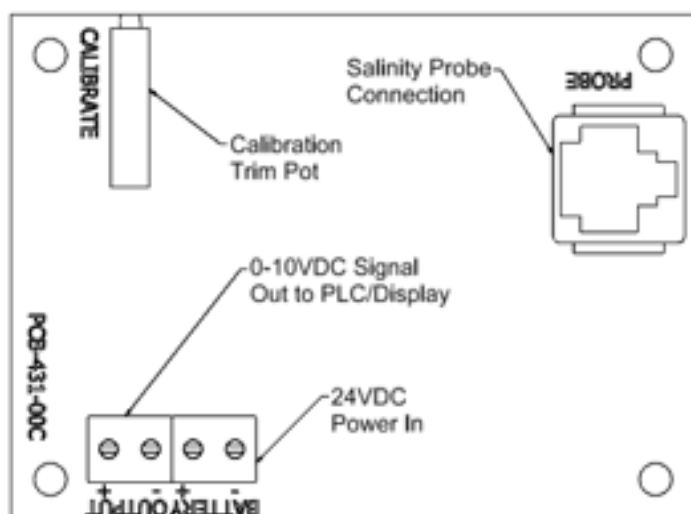

Figure 20
f. Using a small screwdriver slowly turn calibration adjustment pot, as shown in figure 20 until the display reading matches the calibration solution value.
- d. Using a small screwdriver slowly turn calibration adjustment pot, as shown in figure 20 until the display reading matches the reading obtained from your hand held meter (Watermakers Inc. part # TDS-1).